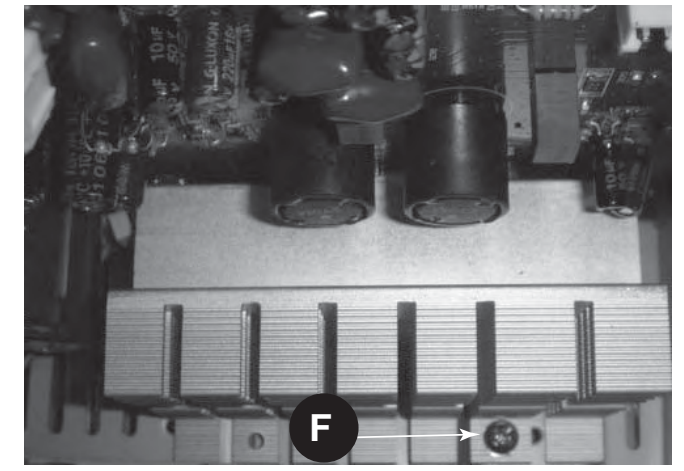

Figure 6
- 2) Loosen 1 screw "F" at the main heat sink board as figure 6.